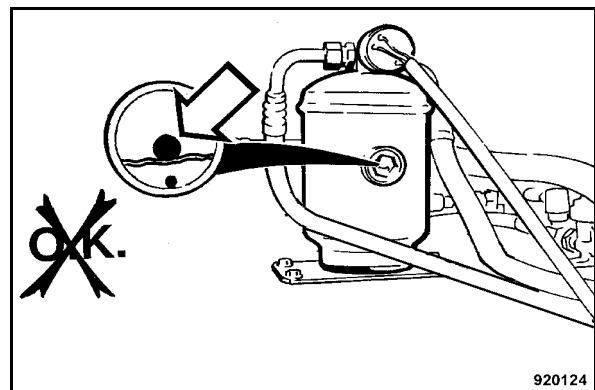

Fig. 158
- If the white float (Fig. 158) inside the inspection glass of the drier/collector unit floats at the bottom, inform the service department.